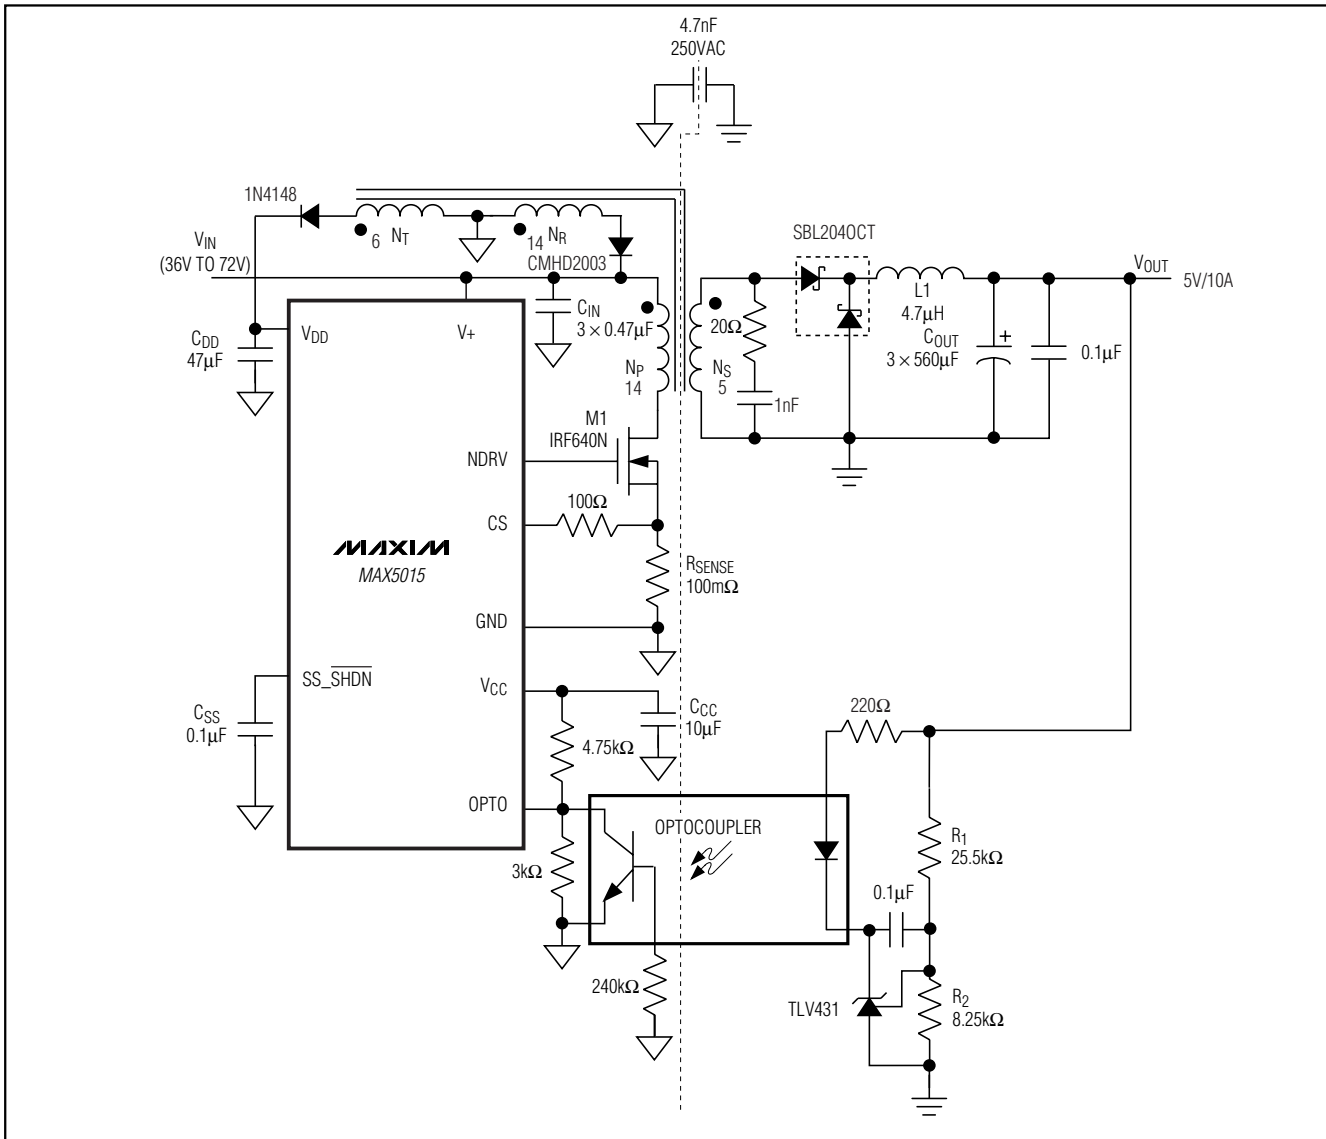
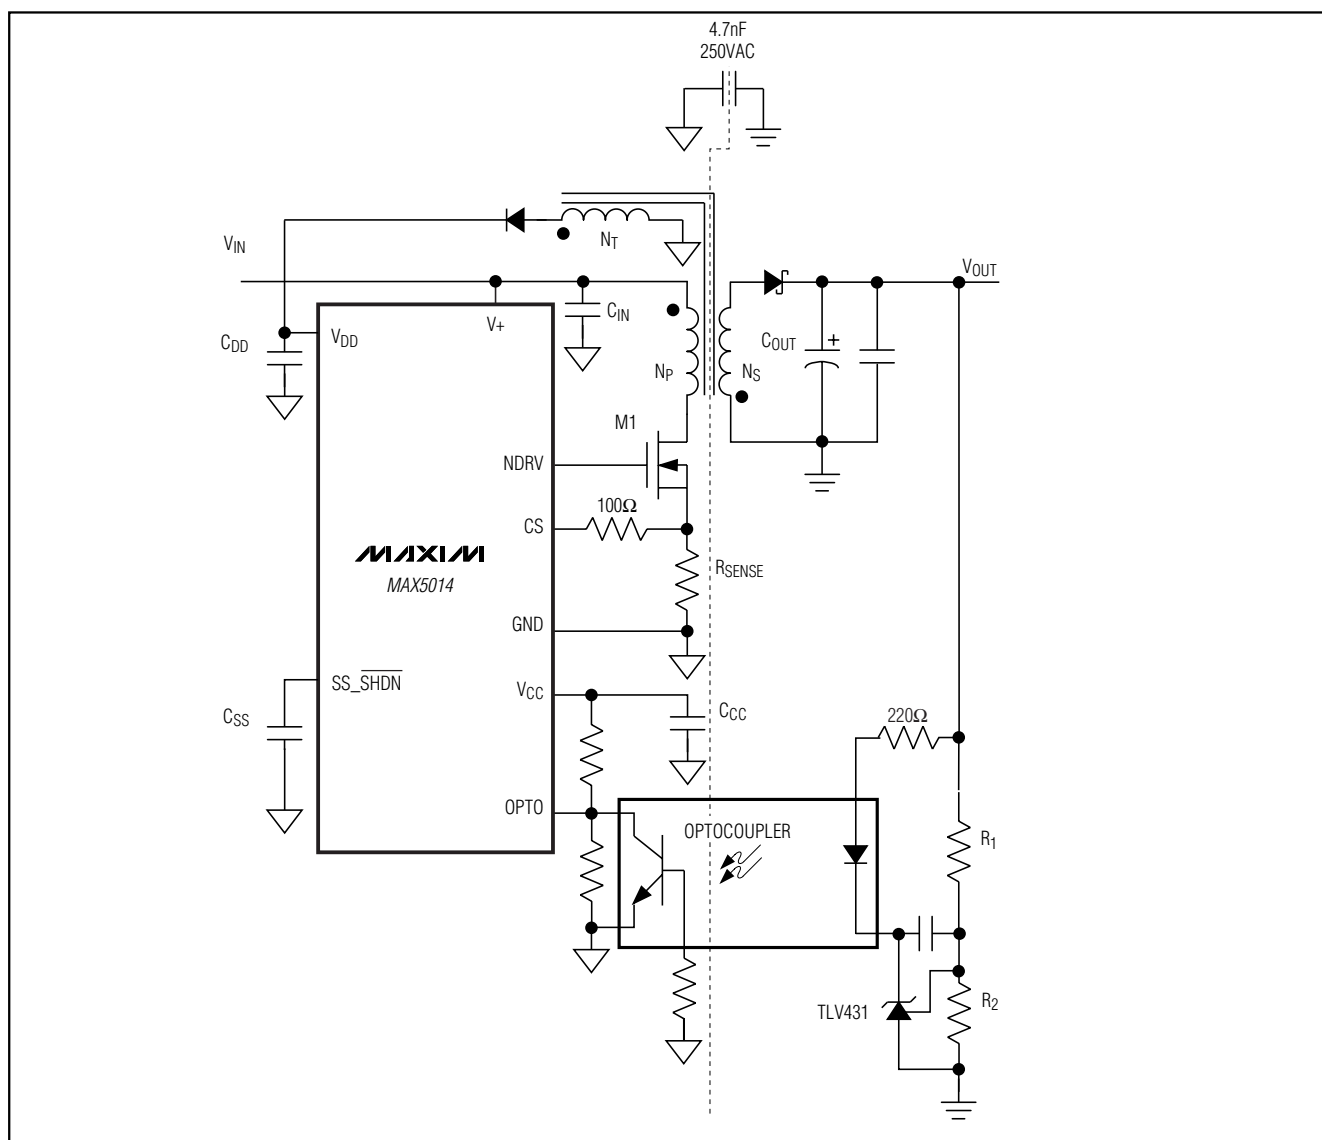

Figure 2. Forward Converter
Figure 3. Flyback Converter
Use the MAX5014/MAX5015 PWM current-mode controllers to design flyback- or forward-mode power supplies. Current-mode operation simplifies control-loop design while enhancing loop stability. An internal high-voltage startup regulator allows the device to connect directly to the input supply without an external startup resistor. Current from the internal regulator starts the controller. Once the tertiary winding voltage is established the internal regulator is switched off and bias current for running the IC is derived from the tertiary winding. The internal oscillator is set to 275kHz and trimmed to ±10%. This permits the use of small magnetic components to minimize board space. Both the MAX5014 and MAX5015 can be used in power supplies providing multiple output voltages. A functional diagram of the IC is shown in Figure 1. Typical applications circuits for forward and flyback topologies are shown in Figure 2 and Figure 3, respectively.
Isolated voltage feedback is achieved by using an optocoupler and a shunt regulator as shown in Figure 2. The output voltage set point accuracy is a function of the accuracy of the shunt regulator and feedback resistor-divider tolerance.
where C_{SS} is the soft-start capacitor as shown in Figure 2.
The current-sense (CS) comparator and its associated logic limit the peak current through the MOSFET. Current is sensed at CS as a voltage across a sense resistor between the source of the MOSFET and GND. To reduce switching noise, connect CS to the external MOSFET source through a 100Ω resistor or an RC low-pass filter (Figures 2, 3). Select the current-sense resistor, R_{SENSE} according to the following equation:
The following is a general procedure for designing a forward converter (Figure 2) using the MAX5015.
The circuit in Figure 2 was designed as follows:
where V_{REF} is the reference voltage of the shunt regulator, and R_1 and R_2 are the resistors shown in Figures 2 and 3.